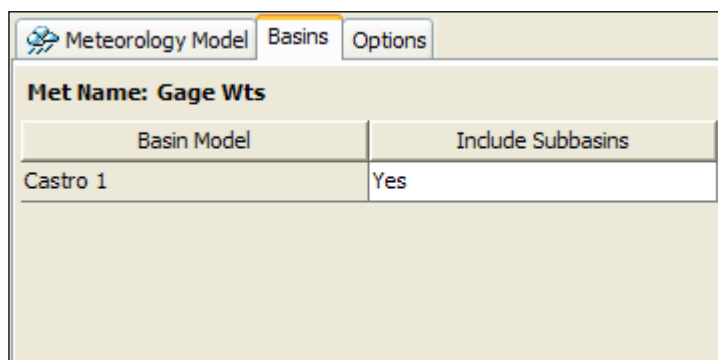
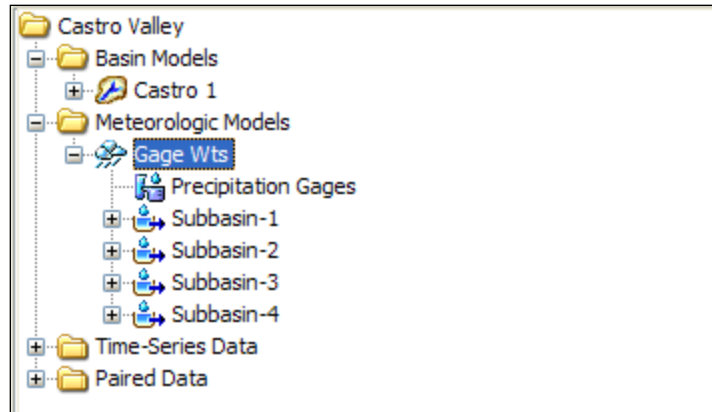

Figure 41. Include subbasins in meteorologic model.
Figure 42. Subbasins added to meteorologic model.
Subbasins need to be specified for this meteorologic model. Click the “Basins” tab in the *Component Editor* for the *Gage Wts* meteorologic model. Set the “Include Subbasins” option to “Yes” for the *Castro 1* basin model (Figure 41). After this step, all subbasins in the *Castro 1* basin model are added to the meteorologic model (Figure 42).
Use the following steps and Figure 42 to complete the Gage Wts meteorologic model:
1. Add the Proctor School and Sidney School non-recording gages to the meteorologic model. Select the **Precipitation Gages** node in the *Watershed Explorer* to open the “Total Storm Gages” editor. This node should be located one level under the meteorologic model (Figure 42). Enter `Proctor` for the “Gage Name” and 1.92 for the “Total Depth”. Add the `Sidney` total storm gage in the same manner (Figure 43).